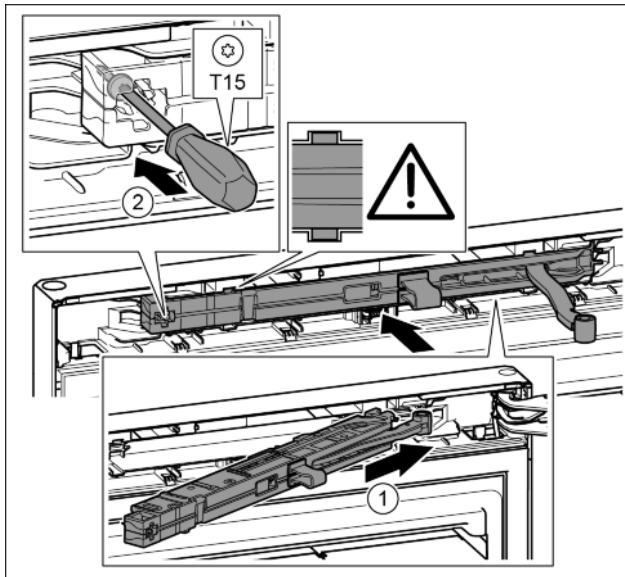

Fig. 40
- ▶ Slide the soft stop mechanism on the bearing bracket side at an angle into the slot as far as the limit stop. Fig. 40 (1)
- ▶ Tighten the screw with the T15 screwdriver. Fig. 40 (2)